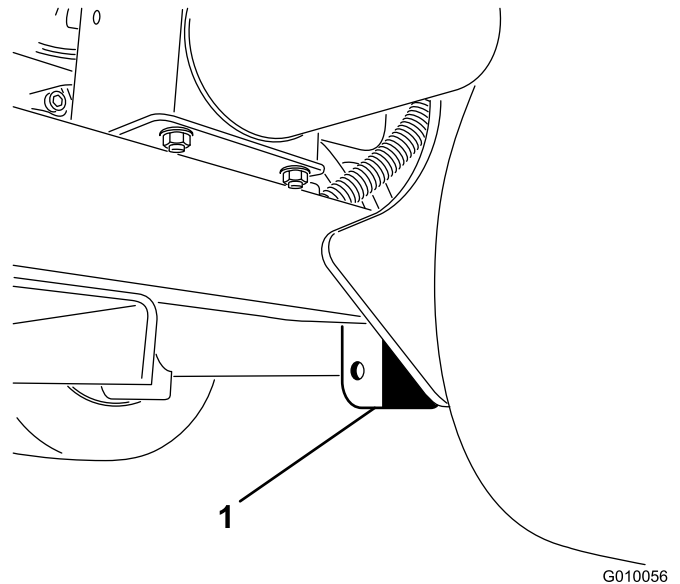

Figure 42
2. Place the jack securely under the frame plate just inside of the rear wheel (Figure 42).